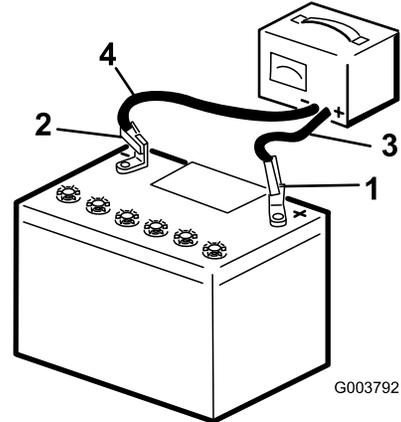

Figure 33
- Charge the battery for 10 to 15 minutes at 25 to 30 A or 30 minutes at 4 to 6 A (Figure 33). Do not overcharge the battery.
- When the battery is fully charged, unplug the charger from the electrical outlet, then disconnect the charger leads from the battery posts (Figure 33).